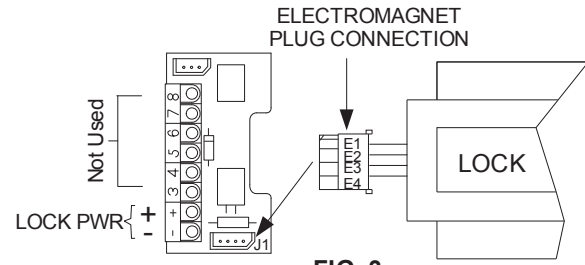

FIG. 3
4. Make all ElectroMagnetic Lock terminal connections according to Figure 3.
Open circuit in ElectroMagnetic Lock coil.	Check coil continuity with OHM meter. If reading is high or open, replace the magnet coil. See Fig. 3 and the Resistance Specifications.
Magnet coil short.	Coil shorts or incorrect wiring will blow fuses. Measure the coil for correct resistance. See Fig. 3 and the Resistance Specifications.